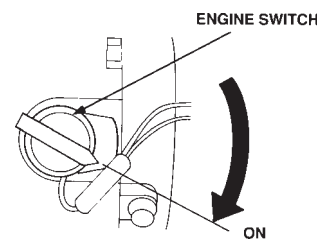

Figure 5. Engine ON/OFF Switch (ON Position)
5. Place the **engine ON/OFF switch** (Figure 5) in the "ON" position.